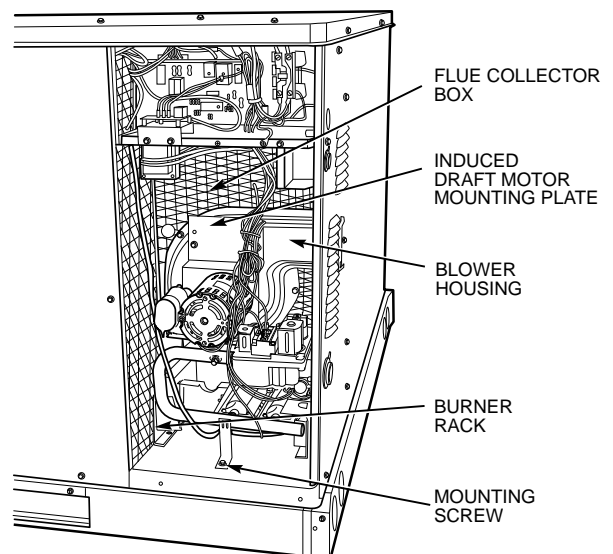

Fig. 34 — Blower Housing and Flue Collector Box
2. Remove the 3 screws holding the blower housing to the flue collector box cover (see Fig. 34).
3. Remove the 12 screws holding the flue collector box cover (Fig. 34) to the heat exchanger assembly. Inspect the heat exchangers.
2. Remove the 7 screws that attach induced-draft motor mounting plate to blower housing. (See Fig. 34.)
7. Remove the mounting screw that attaches the burner rack to the basepan. (See Fig. 34.)
8. Slide the burner rack out of the unit. (See Fig. 34 and 37.)